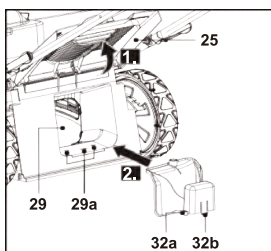

Fig. 16
1. Open the rear deflector guard (25), hold it in position and insert the mulching insert (32) into the rear discharge chute (29) (Fig. 16). Ensure the two spigots (32a) and the locking latch (32b) snap into the rear